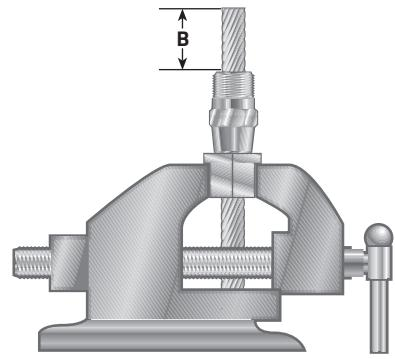

Figure 1
**STEP 1:** **Slide the sleeve over the rope, secure the rope in the assembly blocks and tighten the vise.** (Figure 1) If the Esmet assembly kit is not available, assembly blocks with a hole 1/32" less than the diameter of the rope can be made. If the rope has seizing, it may be easier to install the sleeve after the seizing has been removed. Before tightening the vise, be sure enough rope extends beyond the sleeve. (see dimensions in Figure 1).